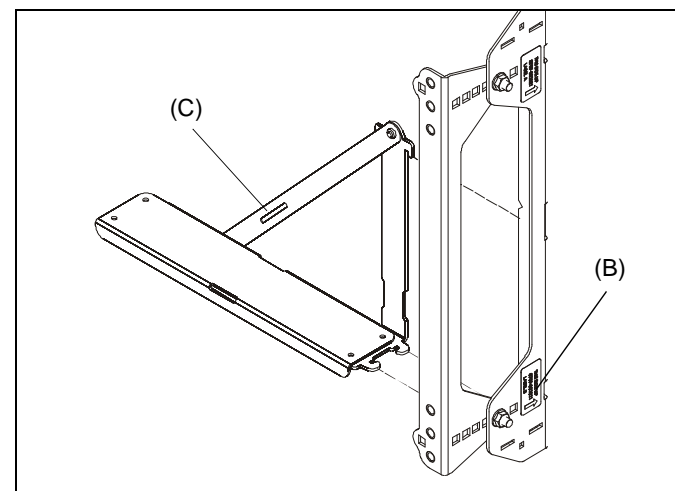

Figure 4
1. Hang shelf bracket (C) onto right wall bracket (B). (See Figure 4)